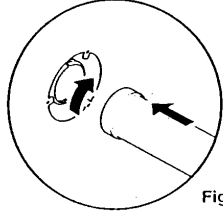

Fig. 55
3. Locate the swaged end of the flue duct over the bayonet fitting on the turret, taking care not to damage the 'O' ring. Lock the flue duct in place by pressing in and turning clockwise (Fig. 55).